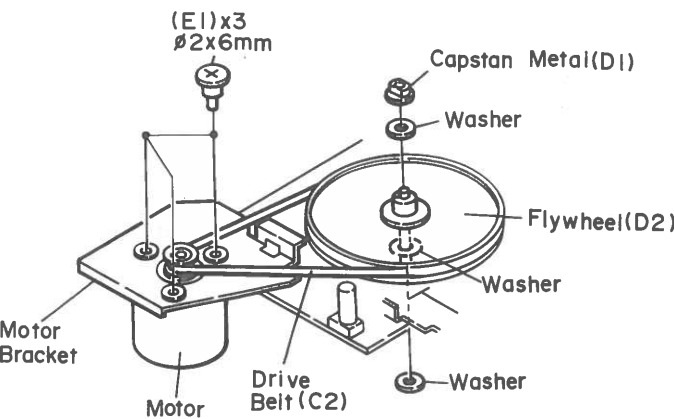

Figure 5-4
- How to remove the flywheel (See Fig. 5-4.)
- How to remove the motor. (See Fig. 5-4.)